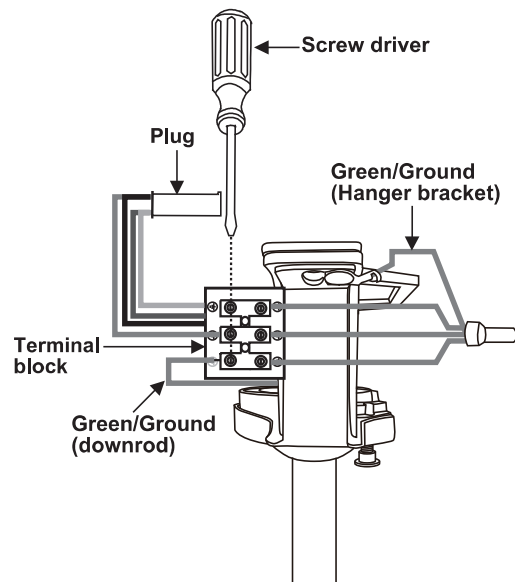

Figure 11
1. Connect the green/ground wire from the downrod ball to the terminal block. (Fig. 11)